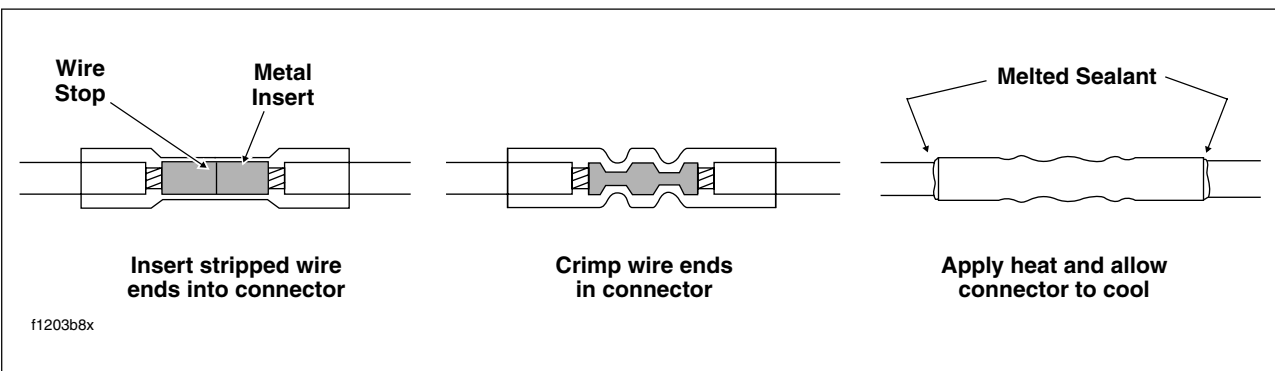

Figure 8-57. Installing Sealed Butt Splice Connectors
6. See Figure 8-57. Feed the wire into the butt splice connector until the stripped end contacts the wire stop inside the metal insert.
9. Using the UltraTorch UT-100 (HD-39969), Robinair Heat Gun (HD-25070) with heatshrink attachment (HD-41183) or other suitable radiant heating device, heat the crimped splice to encapsulate the butt splice connection. Apply heat from the center of the crimp out to each end until the meltable sealant exudes both ends of the connector. See Figure 8-57.